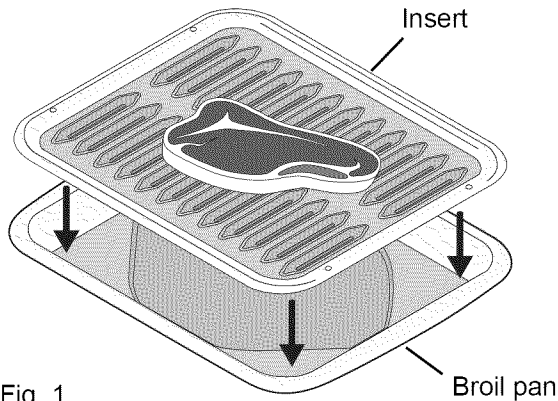

Fig. 1
- Use the recommended pans and oven rack positions for the type of meat being prepared -page 24, Figs. 1 & 2-.
The broil pan insert (if equipped) contains slots that allows grease from the meat to drain into the broil pan. Place prepared meat on broil pan insert and then place onto broiler pan as shown -Fig. 1-.